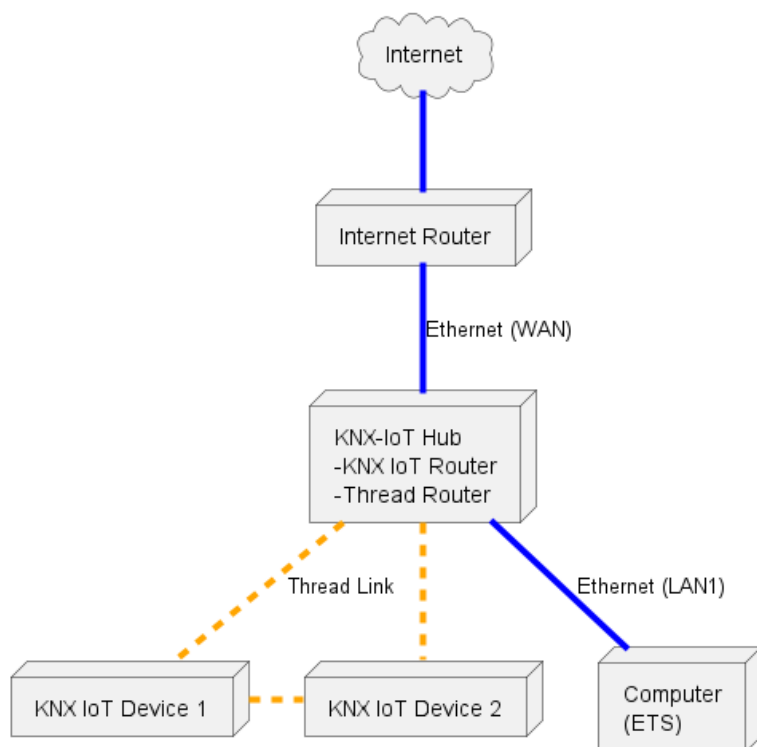

Fig 1: Typical Network Topology with a Thread network.
- Figure 1 : Typical Network Topology with a Thread network.